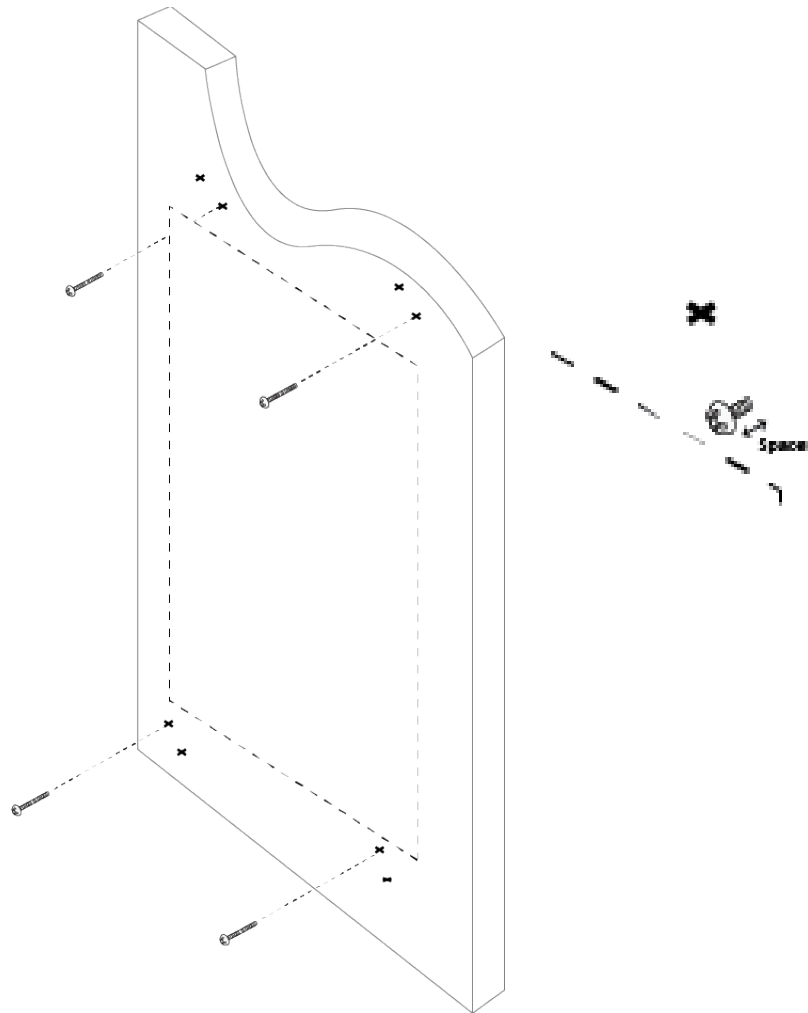

Figure 28. Screwing Four Screws on the Wall
8. Screw four screws to the pre-drilled holes that are closer to the switch, leaving space between the screw heads and the wall. See Figure 28.